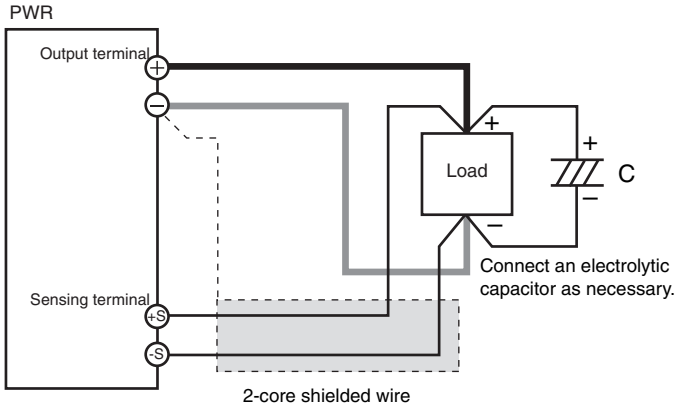

Fig. 2-15 Remote sensing connection
- 3 As shown in Fig. 2-15, connect the sensing cable between the sensing terminal and the load terminal.